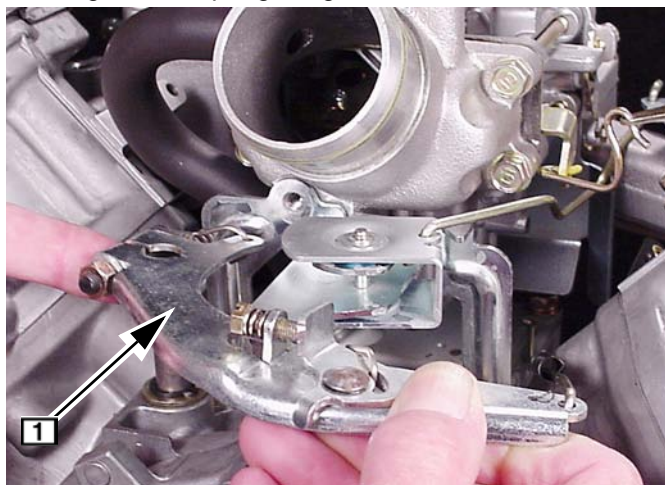

Fig. 44
3. Remove governor lever **1** and disconnect governor springs, Fig. 44.